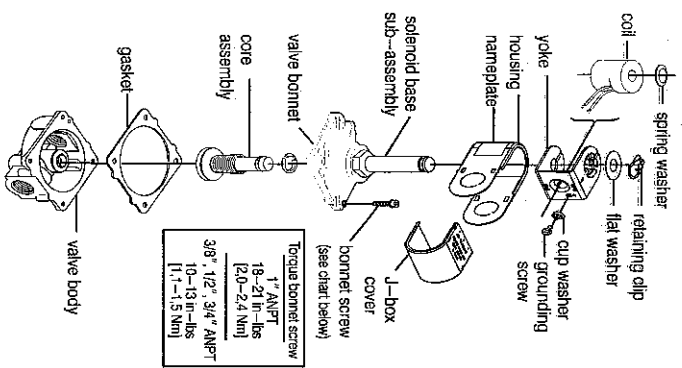

Figure 2. Exploded view, typical K3A valve.
**Coil Replacement (Refer to Figure 2)**
**Valve Disassembly (Refer to Figure 2)**
1. Disassemble valve in an orderly fashion. Paying careful attention to exploded view for identification and placement of parts. See Figure 2.